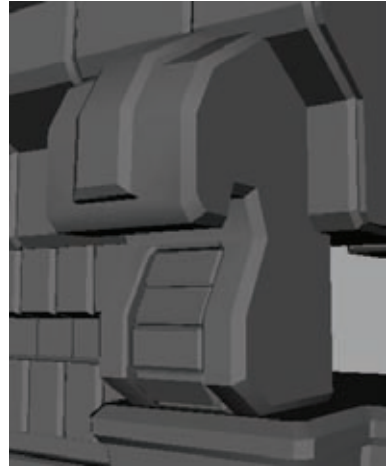

Figure 5.36
6. For a moment, return to the decorative supports. You can continue to modify them to be as decorative as you'd like. I took my base shape and added a few details (Figure 5.36). They don't need to be too fancy as they will never be seen up close in the game. These little supports will be near the tops of the buildings most of the time.